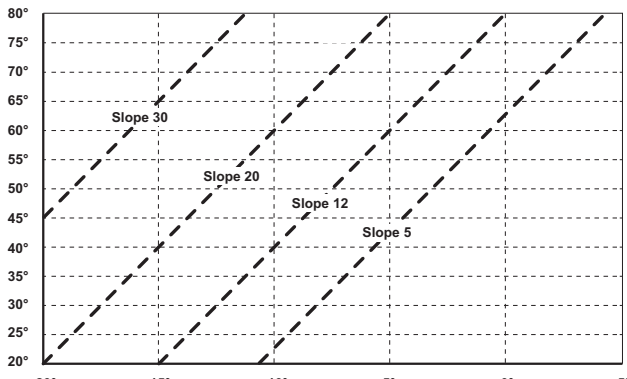
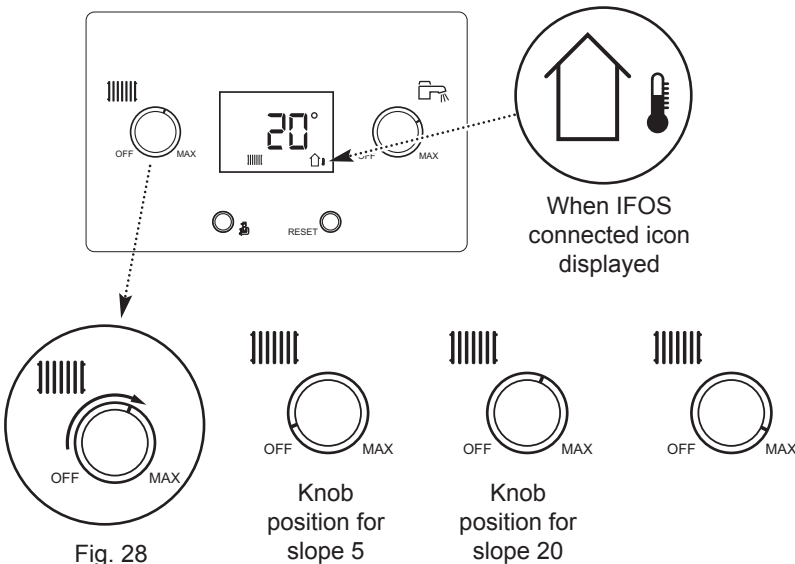

Fig. 27
Fig. 28
5. The Central Heating Control Knob should be turned clockwise until the value which corresponds with the desired slope (as shown on the graph - Fig. 27) is displayed (Fig. 28).
6. Normally the display will show the current temperature of the water in the boiler (e.g. 41°C). As the knob is turned the display will show the selected slope (Figs. 27 & 28).
For example, if Slope '12' is selected (Fig. 27), at an outside temperature of 0°C the boiler flow temperature will be 80°C. Consider the type of dwelling and discuss with the user their requirements to determine the most appropriate curve.